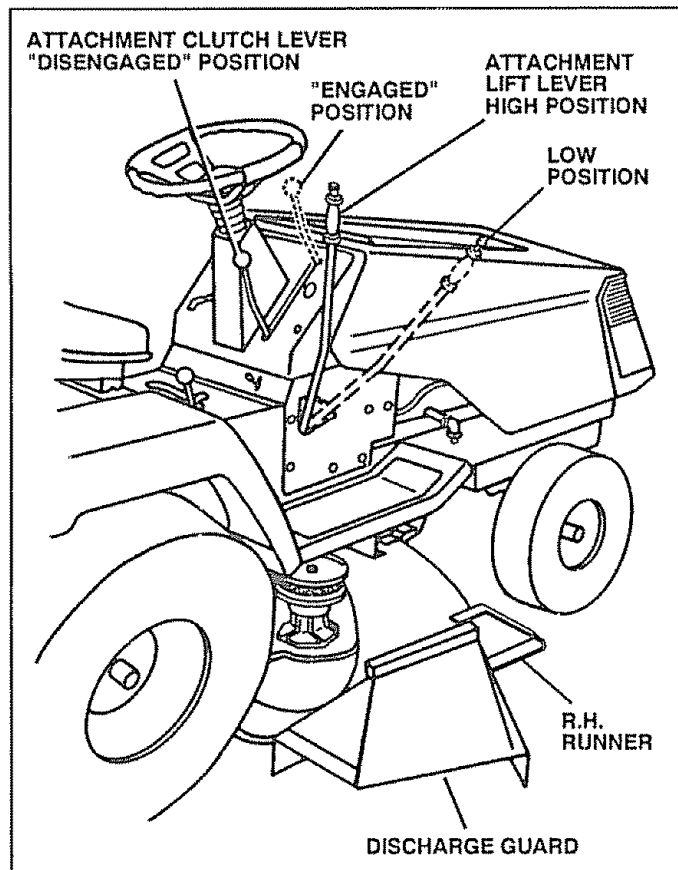

FIG. 10
## TO OPERATE MOWER (See Fig. 10)
- Use the runner on the right hand side of mower as a guide. The blade cuts approximately an inch outside the runner (See Fig. 10).